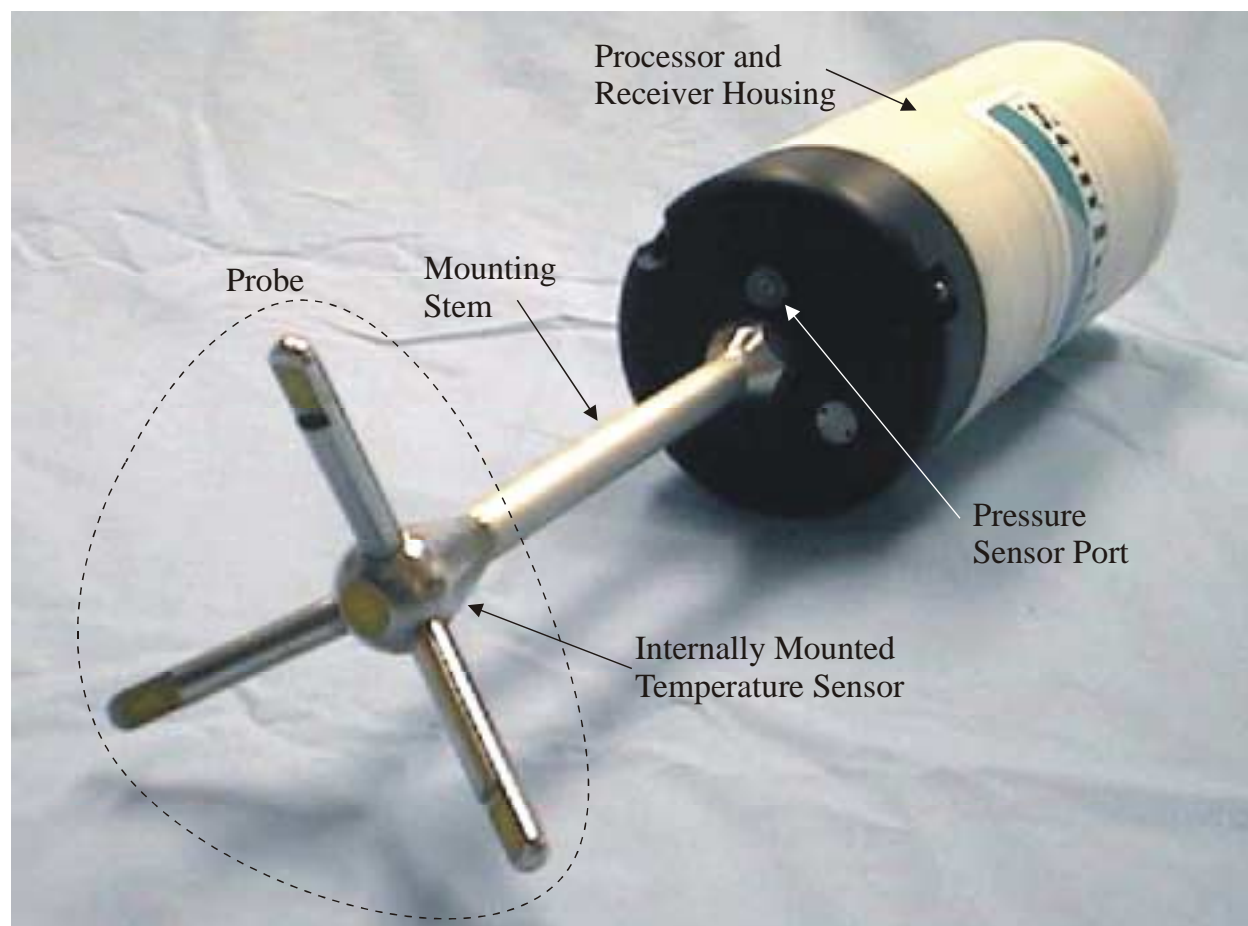
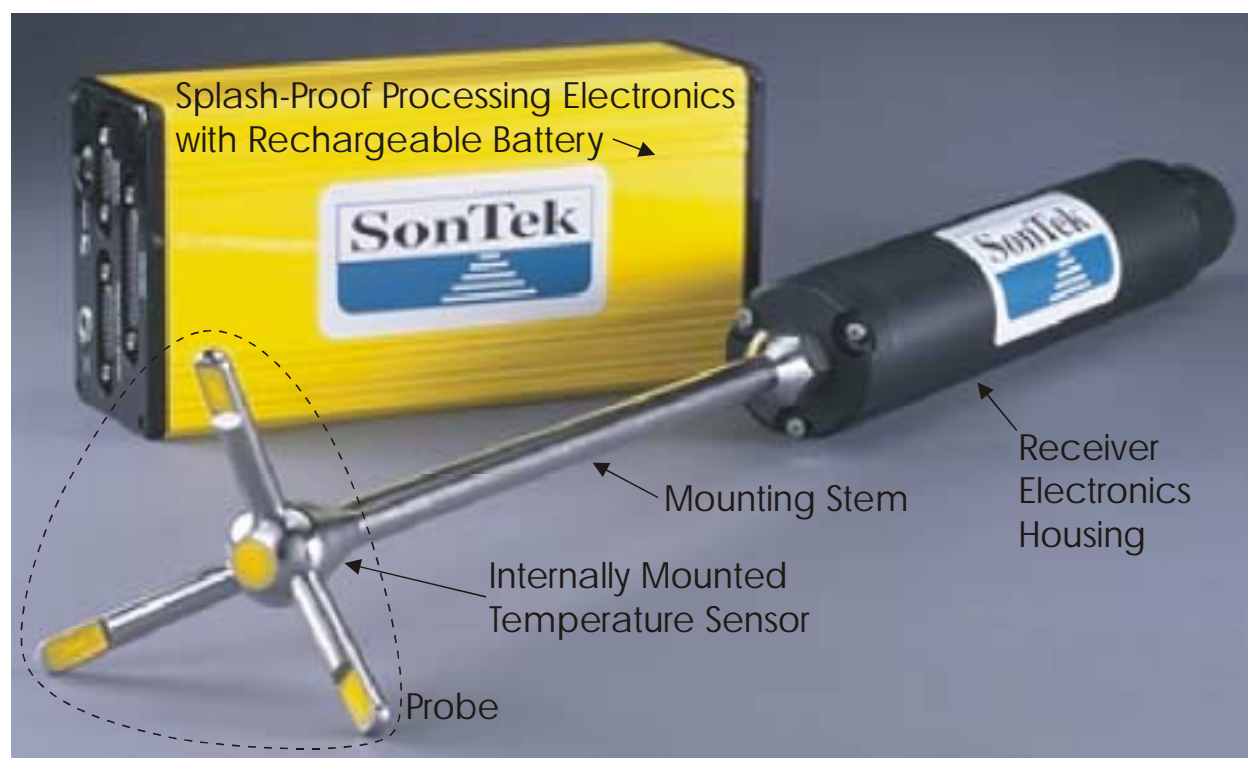

Figure 1 – Argonaut-ADV Underwater Configuration
Figure 2 – Argonaut-ADV Splash-Proof Configuration
- **Argonaut-ADV Underwater Configuration** – This configuration (Figure 1) uses a submersible housing for all system electronics: receiver, processor, recorder, and compass/tilt sensor. The system operates on externally supplied power.
- **Argonaut-ADV Autonomous Configuration** – This is the Underwater Configuration with the addition of internal batteries. The system is identical to the one shown in Figure 1, but with a longer housing to accommodate batteries. The autonomous system can be configured with alkaline or rechargeable (NiCad) batteries depending on the application.
- **Argonaut-ADV Splash-Proof Configuration** – This system separates the receiver electronics (in a smaller submersible housing) from the processor (in a separate splash-proof housing). The two are connected by the probe cable. This system is primarily designed for wading rod applications, and is shown in Figure 2.
- **Receiver** – The receiver electronics amplify and filter signals to/from the probe. In the underwater system, the receiver is in the same housing as the processor (Figure 1). In the splash-proof system, the receiver electronics are in a separate housing (Figure 2).
- **Processor** – The Argonaut-ADV processor consists of two printed circuit boards that perform all Doppler velocity processing. In the underwater system, the boards are installed in the same submersible housing as the receiver electronics (Figure 1). In the splash-proof system, they are installed in a separate housing (non-submersible) that includes a rechargeable battery (Figure 2).
- **Probe cable** – For the splash-proof system, a multi-conductor shielded cable connects the probe and receiver to the processor. This cable is very noise-sensitive; it should never be modified. The maximum probe cable length is 30 m (the cable is not shown in Figure 2). The underwater system does not have a probe cable.